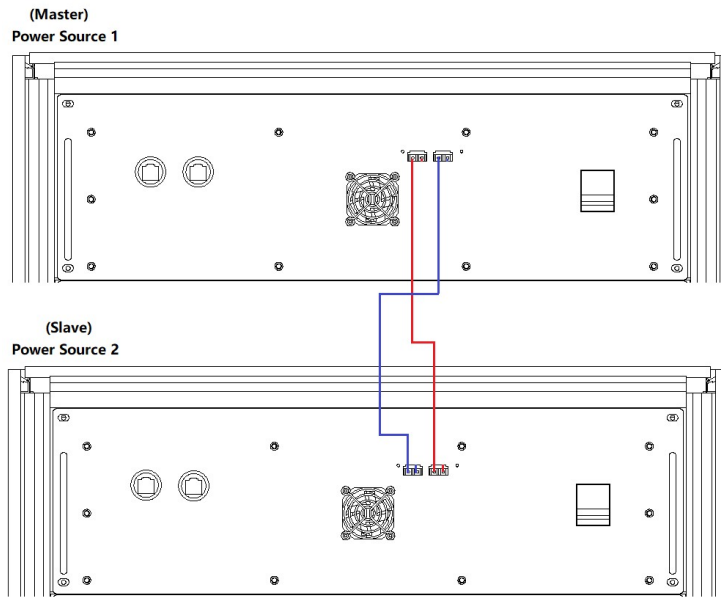

Figure 1-24 Optical fiber cables
Step 2: Connect the fiber optic cables of the two units, as shown in Figure 1-24.